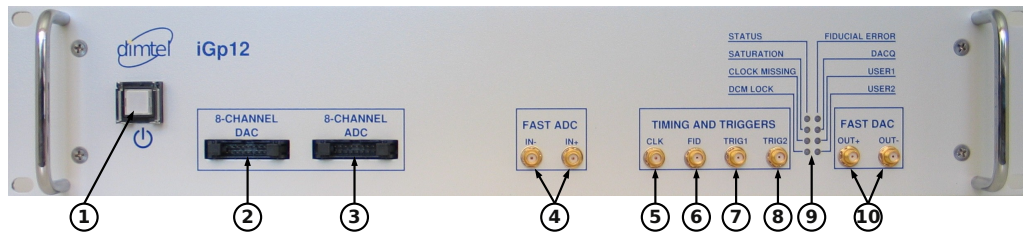

Figure 2: Front panel features
1. Connect RF clock at  $-3$  dBm nominal level (Fig. 2, item 5);
2. Connect single-ended high-speed ADC input signal to **Ain+** (Fig. 2, item 4). The FS swing of this signal should be 780 mV peak-to-peak;
3. Connect a  $50\ \Omega$  terminator to **Ain-** (Fig. 2, item 4);
4. Connect high-speed DAC output(s) (Fig. 2, item 10) to the appropriate back-end unit;
8. Push the power button (Fig 2, item 1) to turn on the system;
10. Push the power button (Fig 2, item 1) to turn the system off;